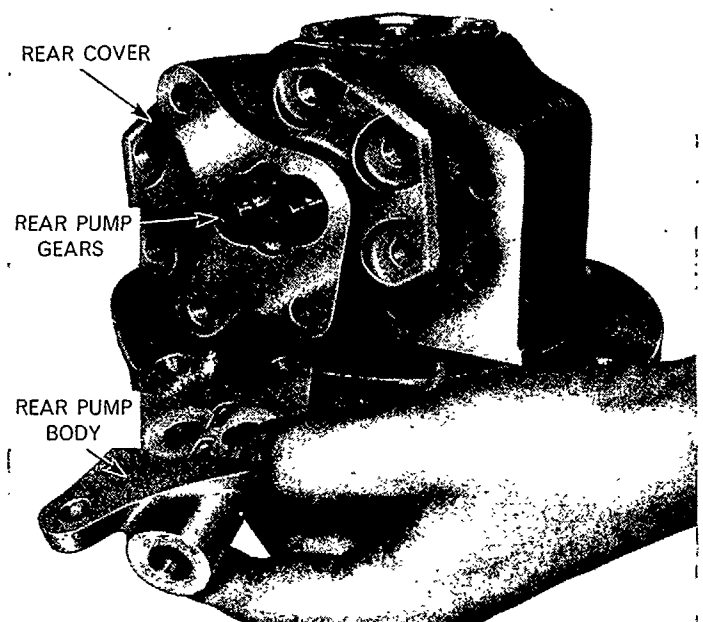

Figure 100
7. Lightly secure the end covers, Figure 100, to the pump body with the bolts, nuts and spring washers ensuring that the two dowel bolts which pass through the outlet cover plate are correctly positioned. Tighten the nuts